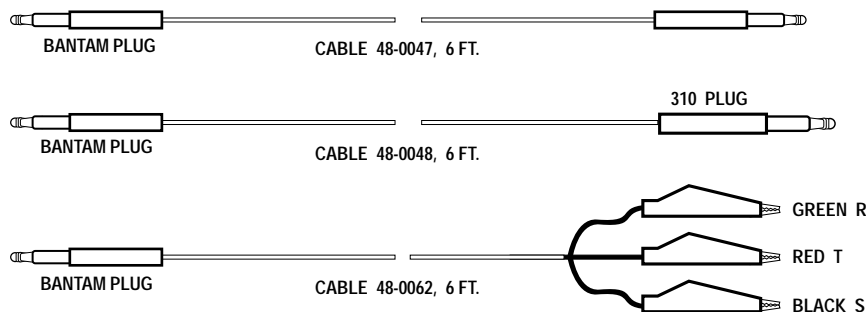

Figure 5-2. AM5XT/eXT Connection Cables
There are three (3) Bantam cables illustrated in Figure 5-2 that are used for line connections. Use these cables as required to connect the AM5XT/eXT to 2-wire or 4-wire lines.